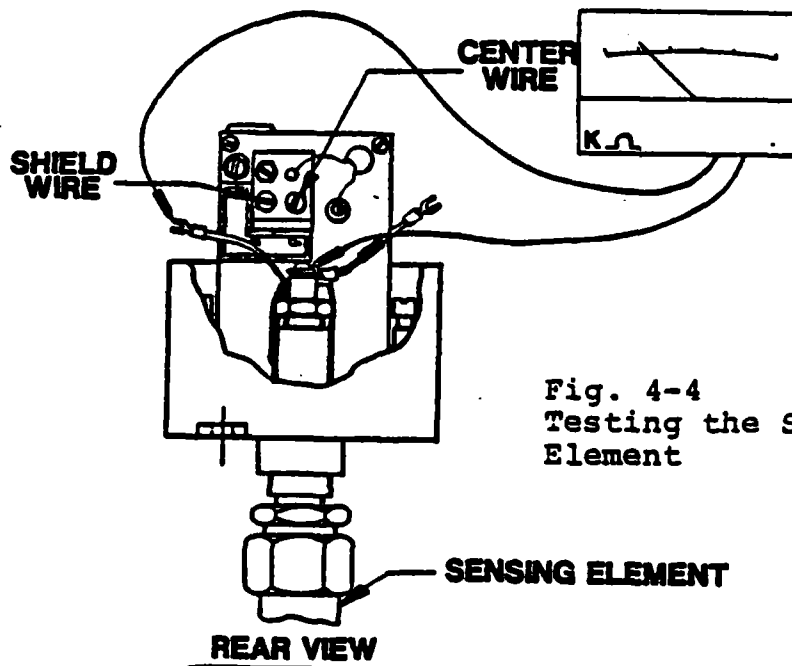

Fig. 4-4
A. See Figure 4-4. Disconnect the center wire (CW) and Shield (SH) wire from the electronic unit.